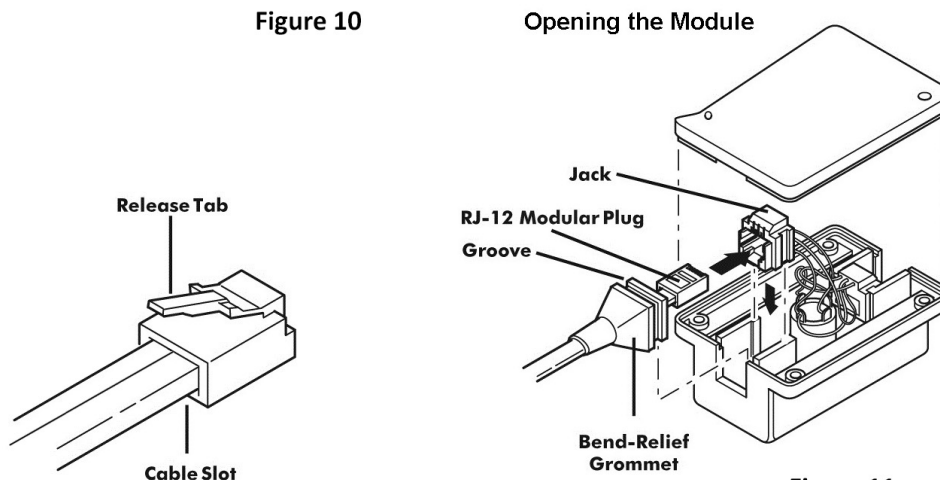

Figure 11
2. Lift the modular jack slightly out of the HM-10 and insert the RJ-12 Modular Plug into the jack in the HM-10 as shown in Figure 11.
1. Insert the Bend-Relief Grommet into the HM-10 so the groove in the grommet is over the side case of the HM-10 (Figure 11).